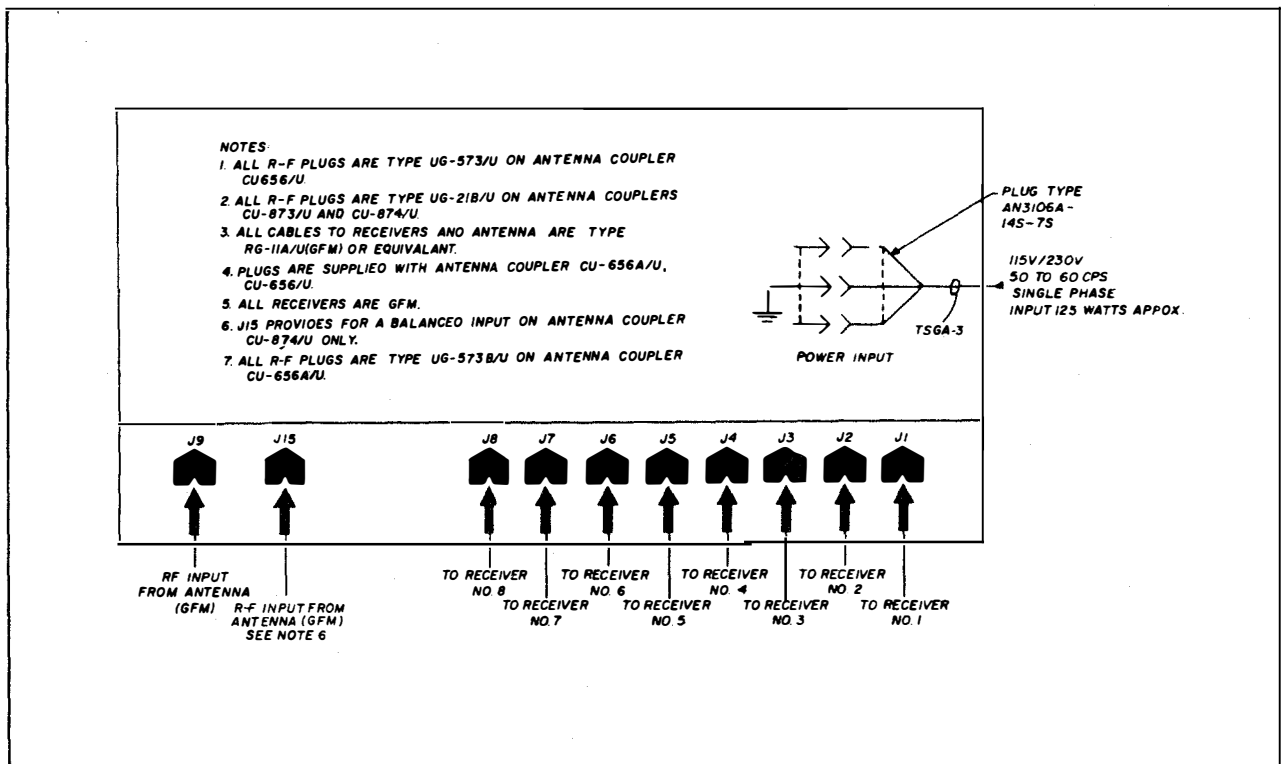

Figure 2-4. Antenna Coupler CU-656/U, Interconnection Diagram
Interconnections of this unit are shown in figure 2-4. It should be noted that no terminating caps are required on the output connectors in the event that less than the maximum number of receivers are used (eight receivers). All connections should be made carefully in order to obtain maximum coupling.
a. The interconnection diagram, figure 2-4 shows the type of coaxial connector termination necessary for all coaxial cable interconnection. For proper assembly of connectors to coaxial cables, follow the procedures in Armed Forces Index of R. F. Transmission Lines and Fittings, NAVSHIPS 900102B.